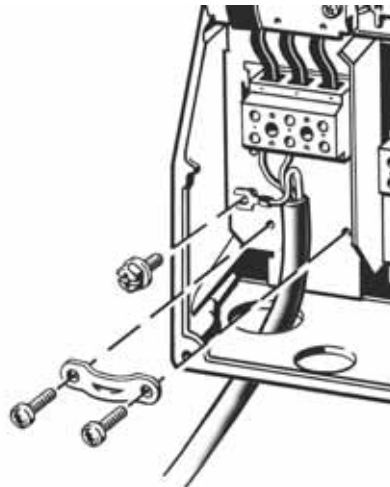

Fig. 6 Mains connection
1. Connect the ground wire to terminal 95 (PE). See fig. 6.